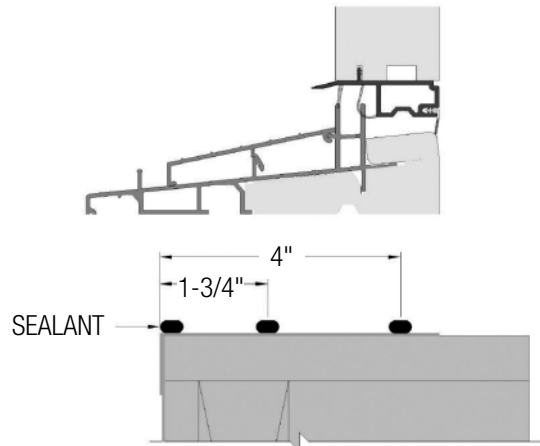

FIG. 10: 4-9/16" & 6-9/16" IN-SWING PATIO DOOR SILL
- Apply three 1/4" continuous beads of silicone across the entire width of the rough opening. Note that the locations are different for each door type. Figure 10 shows the silicone location for a 4-9/16" and 6-9/16" in-swing door. The bead location will be different for other jamb sizes. (Fig. 9, 10 & 11)